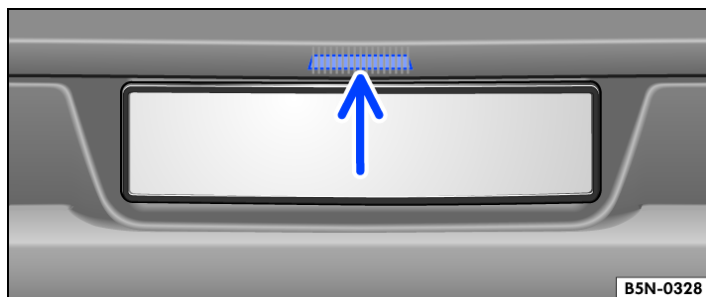

Fig. 1 On the outside of the trunk lid: Button to open the trunk lid.
2. Raise the trunk lid using the button → *fig. 1*.